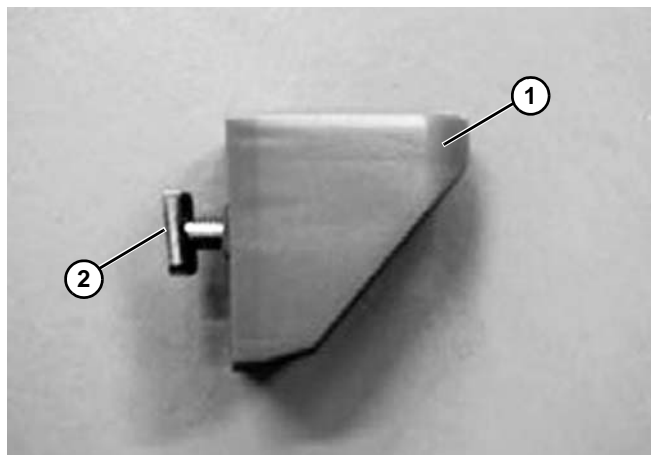

Figure 93
1. Prepare the heavy-duty guide rail bracket (**Figure 93, item 1**) with T-bolt (**Figure 93, item 2**).